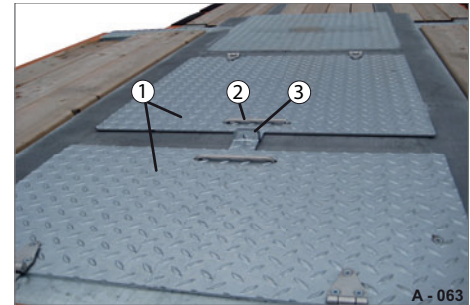

Fig. 63 Stowage boxes two-fold, lockable
- Lock the lid on the other side on the locking bracket, (Fig. 63/3) e.g. using a U-lock.